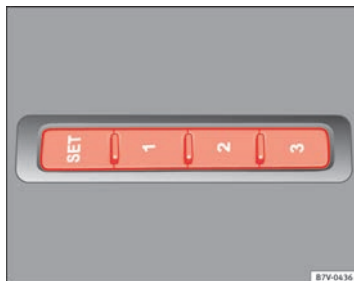

Fig. 81 Memory buttons on the outside of the driver seat
- Keep the **SET** button held down for more than one second ⇒ Fig. 81.